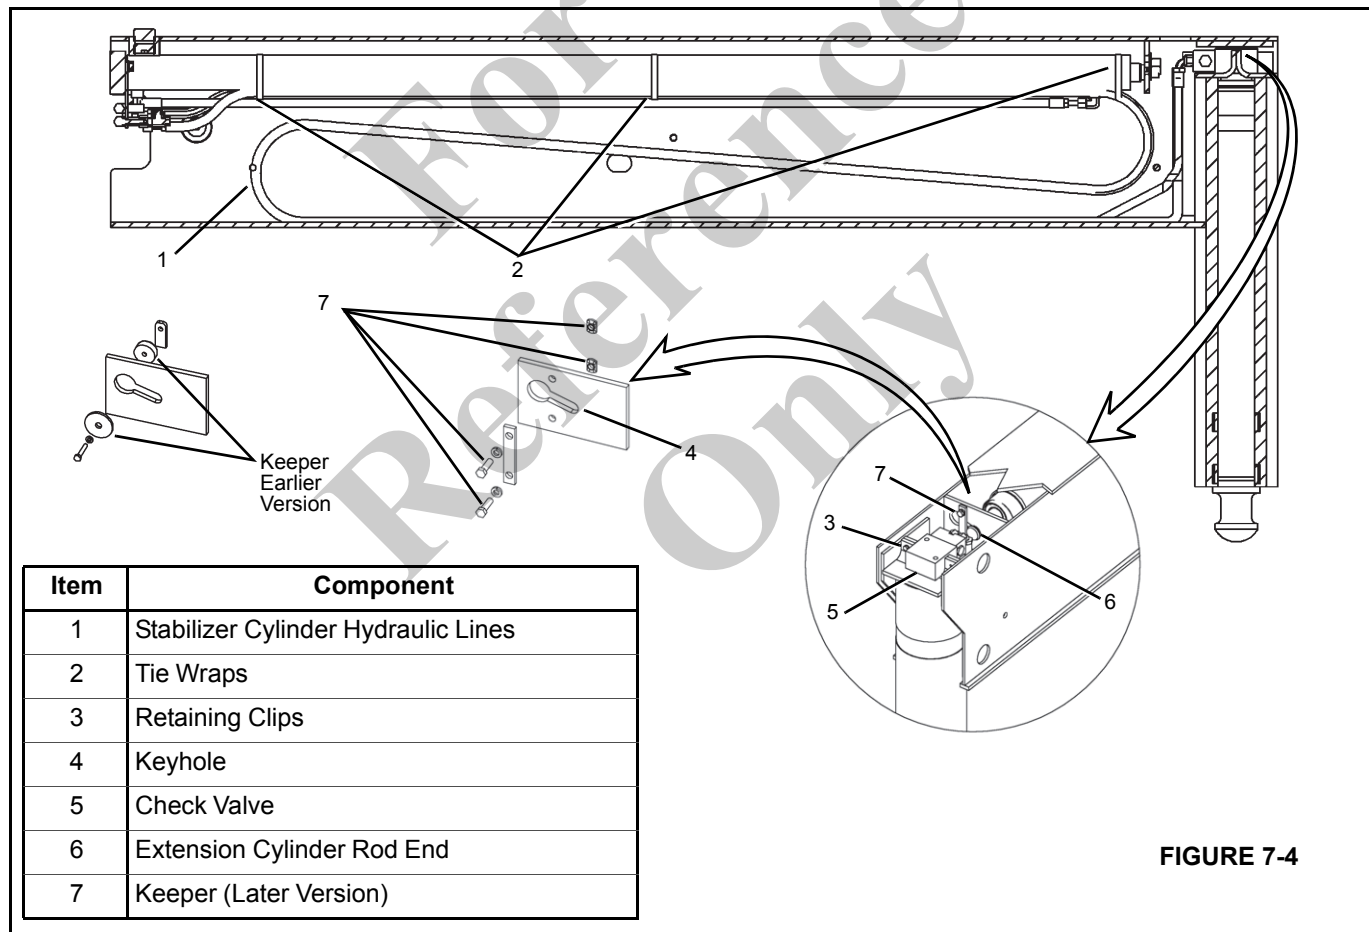

FIGURE 7-4
2. Remove the keeper (7) from the keyhole.
3. Remove the rod end of the extension cylinder (6) from keyhole on the stabilizer end of the outrigger beam (Figure 7-4).
cylinder with the tie wraps as shown in (Figure 7-4).
3. Slide the extension cylinder into the outrigger beam. Make sure the stabilizer hydraulic hoses are routed as shown in Figure 7-4.